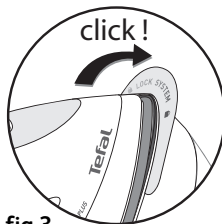

fig.3
- Unlocking – **fig.3**.
- Lower the retaining hoop to unlock the safety catch – **fig.3**.